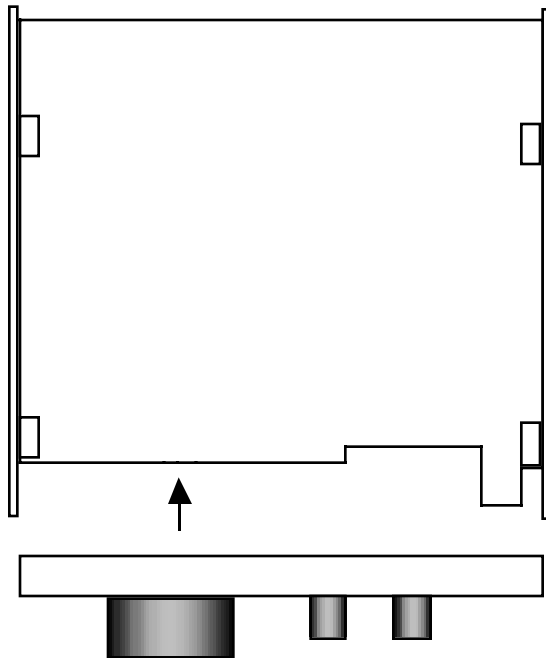

Figure 6-13
- With the assembly upside-down or resting on one side, plug the front panel assembly into the RF board (Figure 6-13). Connector J1 on the bottom of the front panel PC board mates with P1 on the bottom of the RF board (indicated by an arrow below).